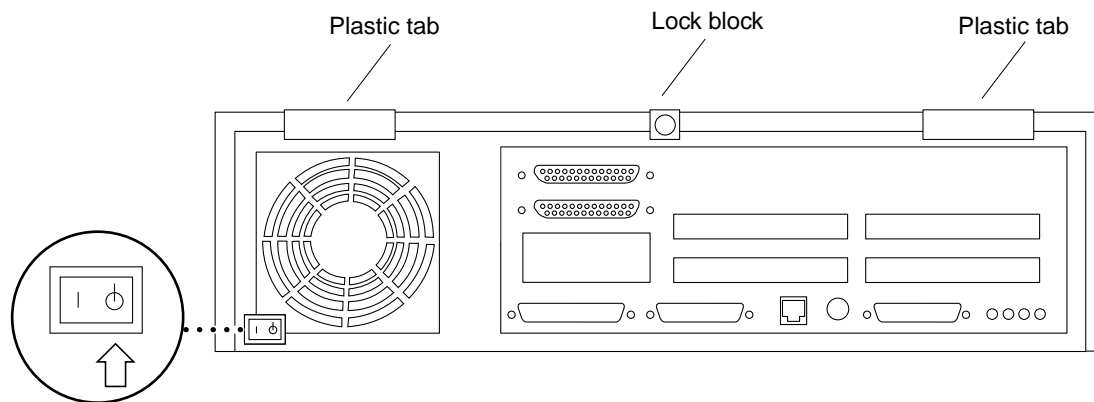

Figure 2-3 Opening the System Unit
1. Use a Phillips screwdriver to remove the lock block (if installed) on the top cover and back panel (Figure 2-3).
2. Pull the two top cover plastic tabs towards yourself (Figure 2-3).